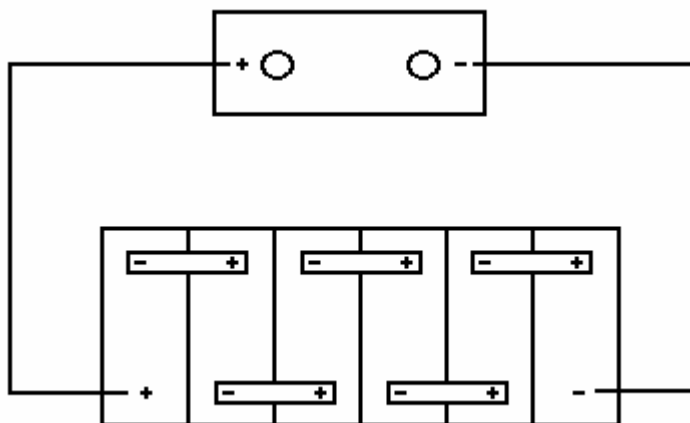

Figure 2: The assembling figure of the battery
4.1.4 Connecting the cells in series according to figure 2, and then cost the Vaseline oil around the nuts, posts and the connectors.
**4.2.3 Connecting the cells in series according to figure 2, and then cost the Vaseline oil around the nuts, the posts and the connectors.**